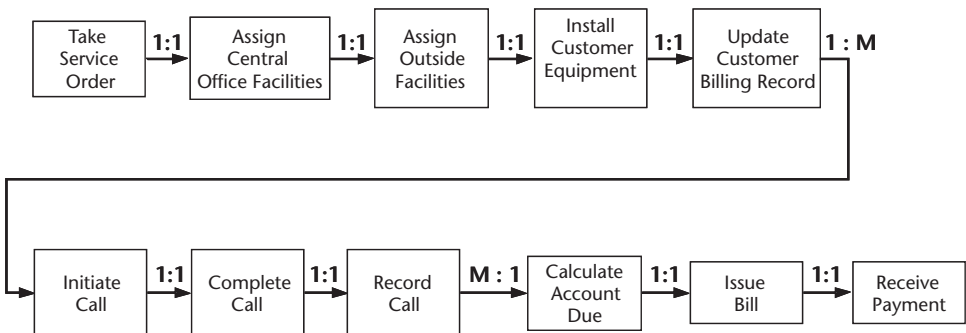

Figure 5.8 Sequence activities and analyze linkages.
2. Once you are happy with the layout, identify the ratio for each link, which will be one to one (1:1), one to many (1:M), or many to one (M:1). The example in Figure 5.8 includes each. M:M linkages are possible too, but are uncommon. Remember not to worry about looping, or instances (1:0) where there is a “dropout” and the sequence doesn't continue—you are looking forward, and focusing on the “happy path.”